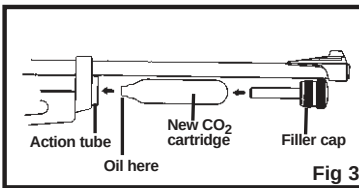

Fig 3
- Insert the new CO₂ cartridge into the airgun with the small neck of the CO₂ cartridge into the action tube first. (Fig. 3)
- Put 1 drop of Crosman 0241 Pellgunoil® on the tip of every CO₂ cylinder to help maintain your airgun. (Fig. 3) DO NOT use petroleum distillate based oil or solvent. DO NOT over-oil as this can cause damage to your airgun.